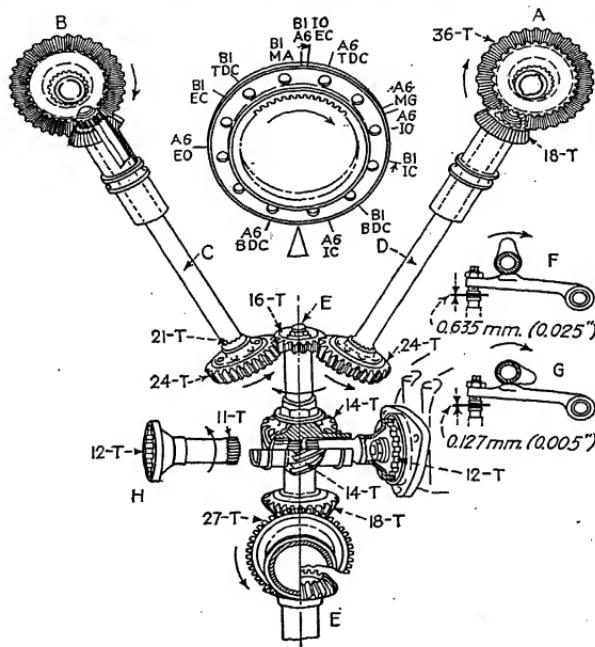

FIG. 43.—Diagram of valve gearing to be used in timing engine.
Figure 43 shows, diagrammatically, the timing gear layout as viewed from the rear of the engine. It also shows
Two timing positions will be seen on the disk, namely, A6 M.A., and B1 M.A., and either may be used, but each distributor must be set accordingly (see Figs. 43 and 45). For example, if mark A6 is used, the distributor pointer of each magneto must be set pointing to the A6, or, alternatively, at contacts B1 if position B1 is used.
*Magneto Timing.*—It will be seen from Fig. 43 that each magneto is driven by a separate shaft *H* from a gear coupled to the crankshaft. It is only necessary, therefore, to set the crankshaft in the correct position and relationship to valves, since the shafts *H* have 11 and 12 driving serrations, thereby allowing a vernier adjustment when engaging the magnetos.